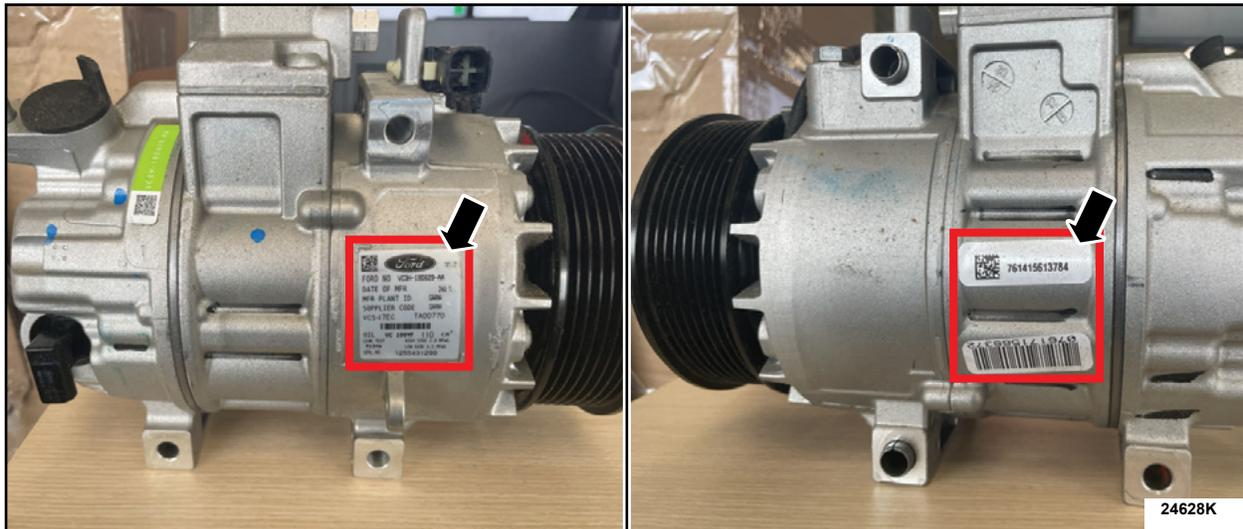

FIGURE 15
2. Take a picture of the 3 tags on the original A/C compressor and submit them with the warranty claim. See Figure 15.